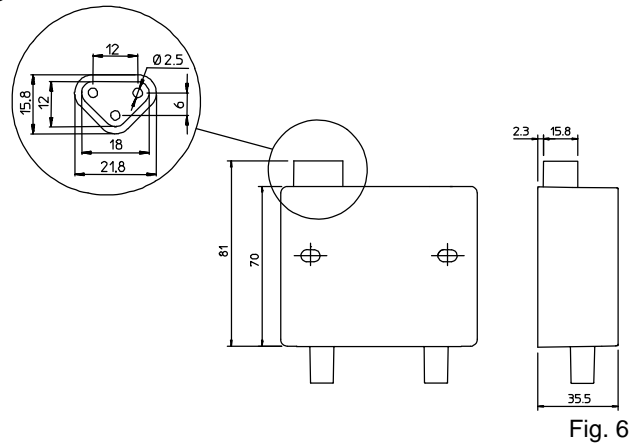
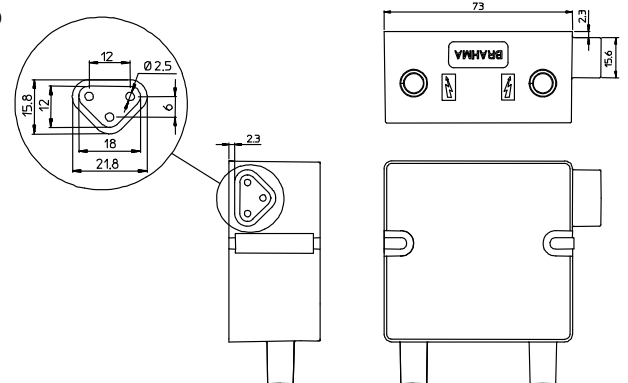

Fig. 6
Fig. 7
- P: supplied with outlet (Fig. 6 and 7);
All transformers can be supplied with cable or supply outlet; see, for instance, Fig. 6 and Fig. 7, which show the dimensions of a transformer provided with supply outlet (with laterals isolators).